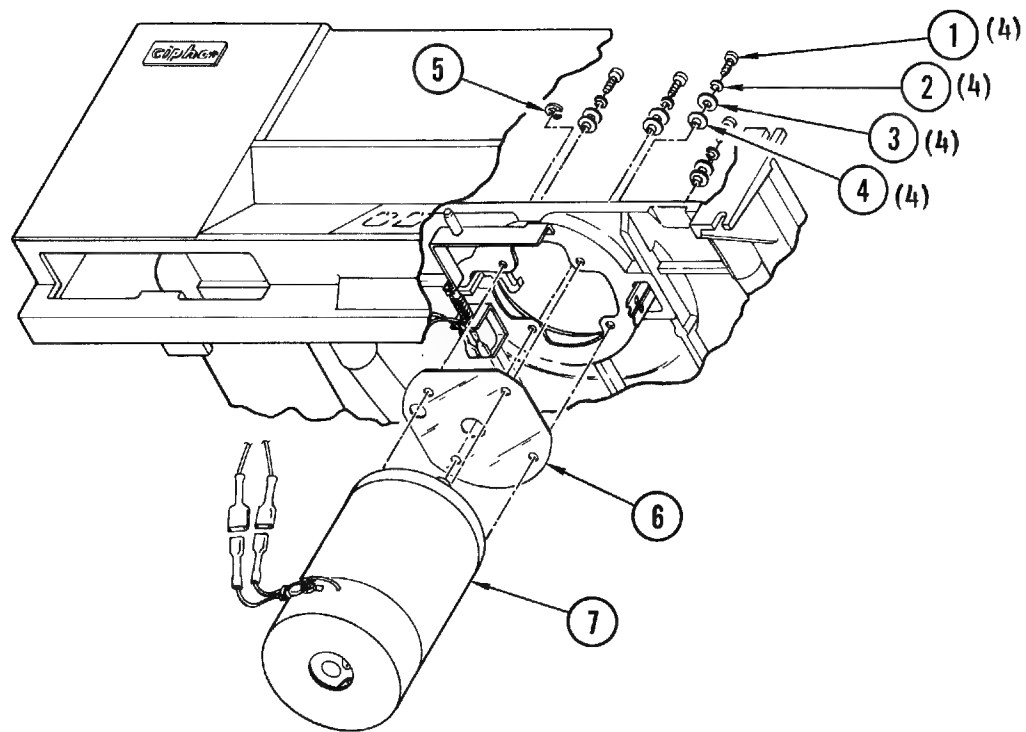

Figure 4-28. Supply Motor Assembly
4-44. Removal and Replacement (Figure 4-28). Place transport in service access position (paragraph 4-3) and remove and replace the supply motor assembly as follows:
- d. Remove bell crank retaining ring (5, Figure 4-28).
- e. Remove screw (1) lockwasher (2), flatwasher (3), shoulderwasher (4), and insulator (6), holding motor (7) as last screw is being removed.
- f. Lower motor (7) from top plate, simultaneously slipping bellcrank off post on top of motor.